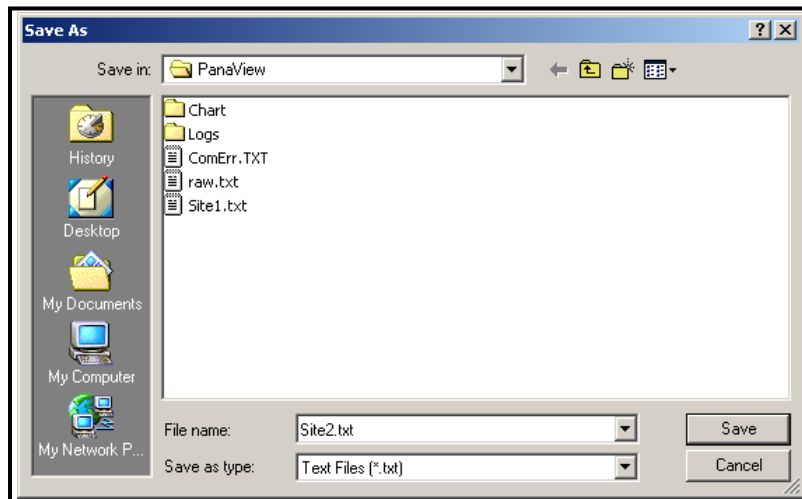

Figure 30: Save As Window
To save the raw signal, click *Save*. A window opens similar to *Figure 30* below. Enter the desired name, and click *Save* to save the signal as a text file.
2. Click *Save Site to PC*. A window opens similar to Figure 30 on page 101.